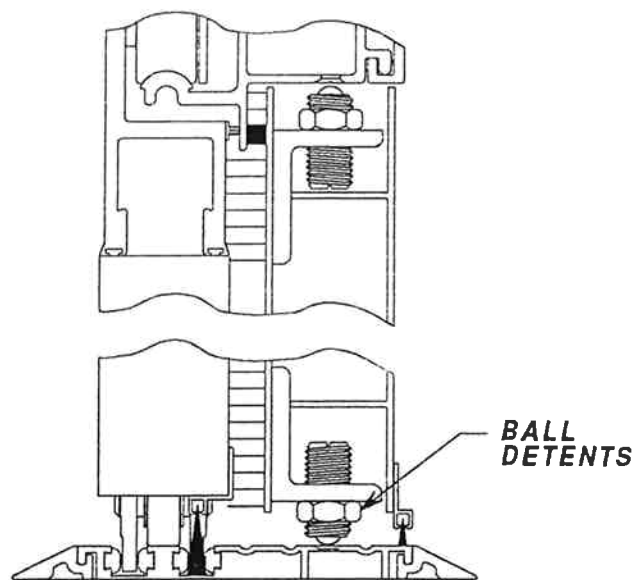

Figure 15
- 8 Where score intersects first centering groove drill 1/4" and counter sink 3/8" x 82 degrees (Ref. Fig 15).